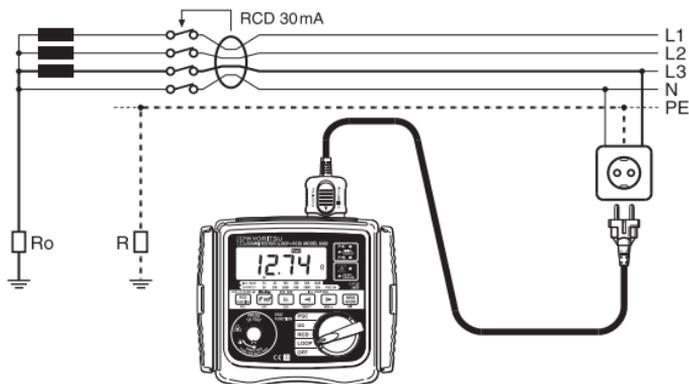

Fig.11
- (2) Connect test lead to object to be tested.(Fig.11,12,13,14)
- (3) Make sure that the P-E and P-N wiring Check LEDs are lit and the wiring in correct LED is not lit. If it is not correct, disconnect the tester and check the wiring for a possible fault.